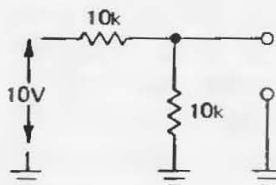

Figure 1.106
(1) Find the Norton equivalent circuit (a current source in parallel with a resistor) for the voltage divider in Figure 1.106. Show that the Norton equivalent gives the same output voltage as the actual circuit when loaded by a 5k resistor.